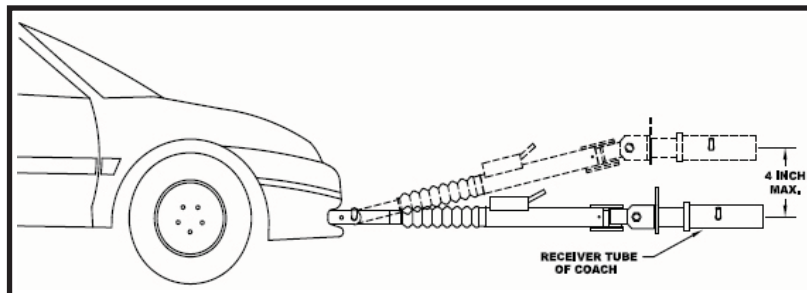

Figure 2
**CAUTION:** It is important that the attachment points at the center of the attachment tabs and the center of the coach's hitch receiver should be of equal distance. If a deviation must be present, it should be no more than four (4) inches from the tabs up to the hitch receiver. There should be no deviation allowed for the hitch receiver tube to be below the level of the attachment tabs. Refer to Figure 2.